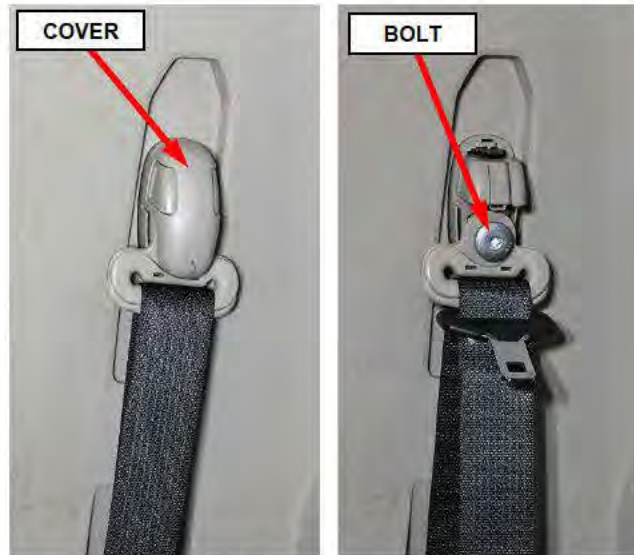

Figure 25 – Seat Belt Turning Loop
18. On the B-pillar, separate the seatbelt turning loop cover then remove the turning loop bolt (Figure 25).
64. Install the seat belt turning loop cover (Figure 25).